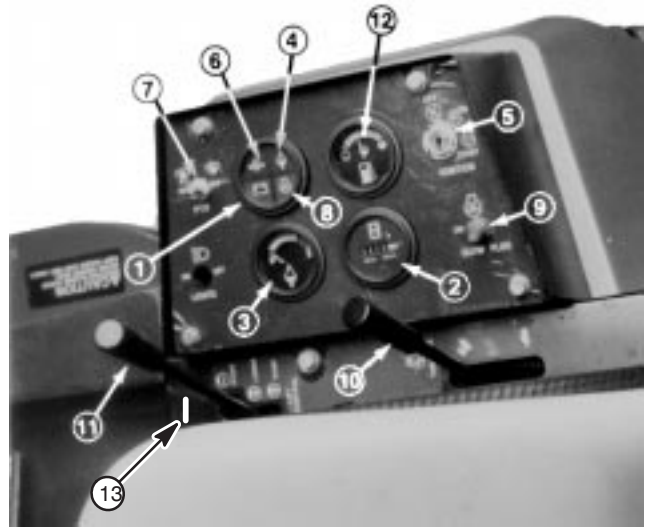

Figure 19
Amp Light (Fig. 19) — The amp light should be off when engine is running. If it is on, the charging system should be checked and repaired if necessary.
Hour Meter (Fig. 19) — Accumulated engine operating time registers on the hour meter.
Temperature Gauge and High Temperature Light (Fig. 19) — The coolant temperature gauge registers the coolant temperature in the system. If the temperature gets too high the engine will automatically shut off and the High Temperature Shutoff Light will light. When this happens, turn the ignition key off, check radiator for debris, check the fan belt and check the expansion tank for proper coolant level. The high temperature shutoff will automatically reset when the coolant temperature has reached a safe level.
Low Oil Pressure Light (Fig. 19) — If engine oil pressure falls below a safe level, the light glows. Stop engine and repair before resuming operation.
PTO Switch (Fig. 19) — Pull up on sleeve on toggle switch handle and move handle to ON to ENGAGE electric PTO clutch. Pull up on sleeve and move handle to OFF to DISENGAGE electric PTO clutch. The only time the PTO switch should be in the ENGAGE position is when the implement is down in operating position and ready to begin operation.
Ignition Key Switch (Fig. 19) — The ignition switch, which is used to start and stop the engine, has three positions: OFF, RUN and START. Rotate key clockwise — START position — to engage starter motor. Release key when engine starts. The key will move automatically to the ON position. To shut engine off, rotate key counterclockwise to the OFF position.
Glow Plug Switch and Indicator (Fig. 19) — Use to preheat engine cylinders prior to cold engine starting procedures — cylinders are preheated automatically during warm engine start operation. For cold starting, push switch lever upward and hold while watching indicator. Indicator will glow orange when the glow plugs are activated. Length of time necessary to preheat cylinders should be determined by atmospheric temperature; refer to Starting /Stopping Engine procedure.
Throttle (Fig. 19) — Throttle is used to operate engine at various speeds. Moving throttle forward increases engine speed — FAST; rearward decreases engine speed — SLOW. The throttle controls the speed of the cutter blades and, in conjunction with traction pedal, controls ground speed of the traction unit.
Hydraulic Lift Lever (Fig. 19) — The hydraulic lift lever has three positions: FLOAT, TRANSPORT and RAISE. To lower cutting unit to the ground, move lift lever forward into notch in seat platform — FLOAT. The FLOAT position is used for mowing and when machine is not in operation. To raise cutting unit, pull lift lever rearward to the RAISE position. After cutting unit is raised, allow lift lever to move to the TRANSPORT position. Cutting unit must be raised when driving from one work area to another.
Lift Lever Lock (Fig. 19) — Lock lift lever, in raised position, when performing maintenance on cutting unit.
- 1. Ensure parking brake is set, PTO switch is in OFF position and lift lever is in TRANSPORT or FLOAT position (Fig. 19). Remove foot from traction pedal and insure it is in neutral.
- 2. Move throttle control (Fig. 19) to full FAST position.
- 3. When temperature is below 15°C (60°F), push glow plug switch to ON position (Fig. 19) and hold for suggested interval.
4. Turn key in ignition switch to START position (Fig. 19). Release key immediately when engine starts and allow it to return to RUN position. Move throttle control to SLOW position.